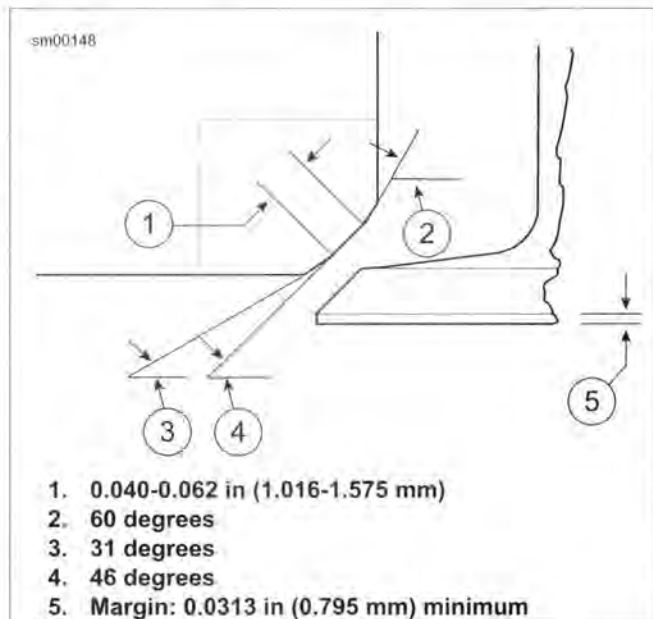

Figure 3-43. Valve and Seat Dimensions
- See Figure 3-43. Replace the valve if margin (5) is less than 0.0313 in (0.795 mm).